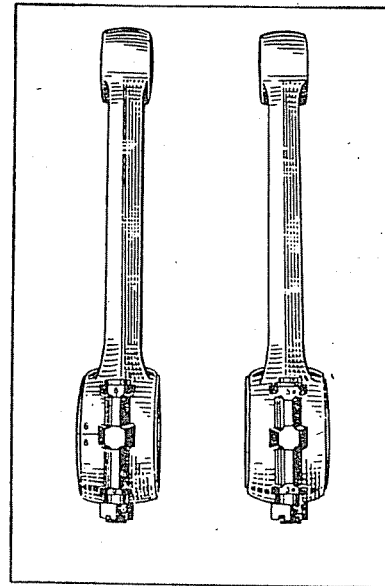

Fig. 8.—Showing the markings on the connecting rods.
- (4) On no account must connecting rod caps be filed as there is not sufficient metal in the bearing to allow that.
- (5) If the bearings and the surfaces are not unduly scored or marked, they may be used again (see para. 3 for permissible wear).
- (6) All connecting rods and caps, as well as their bolts and nuts, are plainly marked with a number, corresponding to their position in the engine (see Figure 8). The numbers on caps, rods, bearings, nuts and bolts coincide.
- (7) On one side of the rod are numbers with dots (thus 2.), on the other side just numbers (thus 2). The side with the dots is on the camshaft side of the engine.
- (8) The original connecting rod bearing shells are also numbered and care should be taken to see that the shells are assembled with the number in the correct position as described above. New bearing shells must be numbered as those which they replace.
- (9) Bearing shells, caps and rods must be scrupulously clean before assembly.